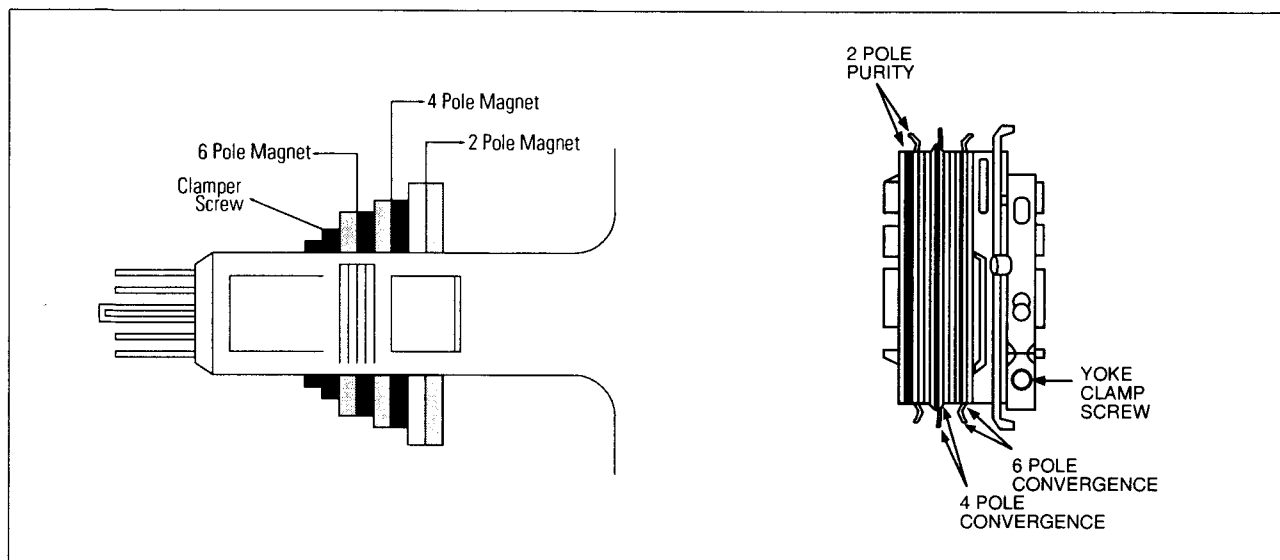

Fig. 5-1 Convergence Magnet Assembly
3. Plug the convergence yoke into the CRT and set in as shown in Fig. 5-1.